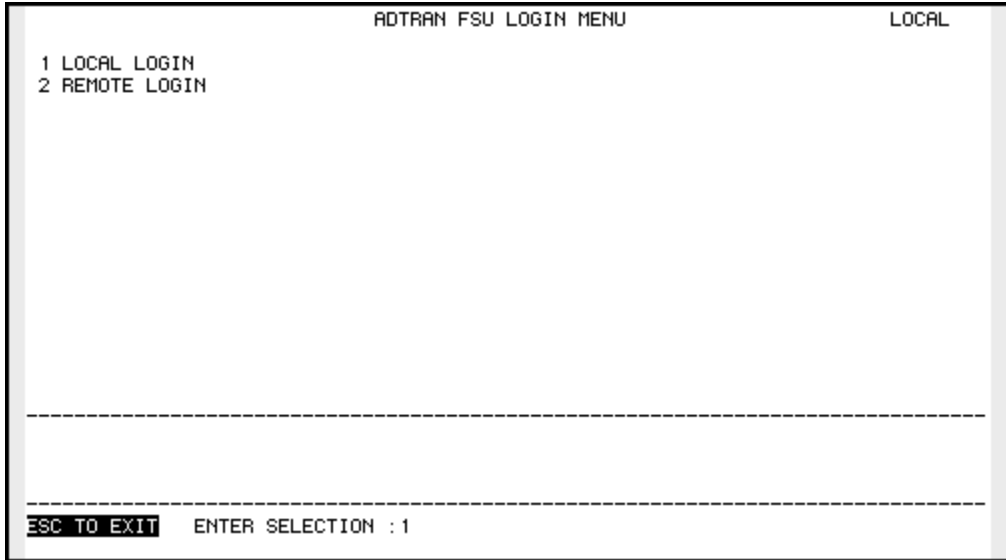

Figure 3-3
3. Open the connection and press **Enter** repeatedly until the Login Menu appears (Figure 3-3).
In the upper right-hand corner of the VT 100 screen, LOCAL or REMOTE is displayed, indicating which unit the current screen represents. See Figure 3-3.